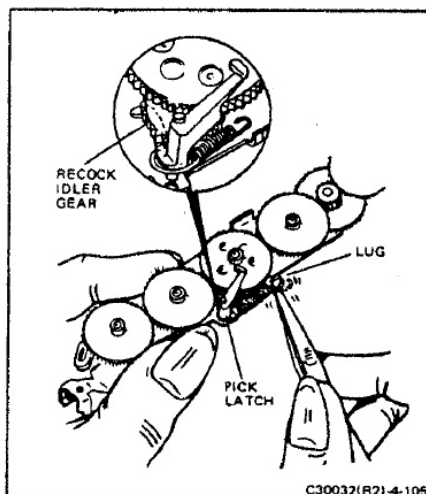

FIGURE 4-105 INSTALLING THE PICK LATCH
- On newer cameras, position the pick latch pivot in the proper hole of the outer plate and hook the longer end of the pick latch spring onto the latch. Using tweezers as shown in Figure 4-105, hook the opposite end of the spring over the retaining lug.
- On early cameras, hook the wide end of the pick latch spring on the pick latch and slide the short hooked end of the latch under the recock gear. (See the inset in Figure 4-105.) Set the latch pivot into the hole on the outer plate and, with tweezers, hook the opposite end of the spring over the retaining lug.